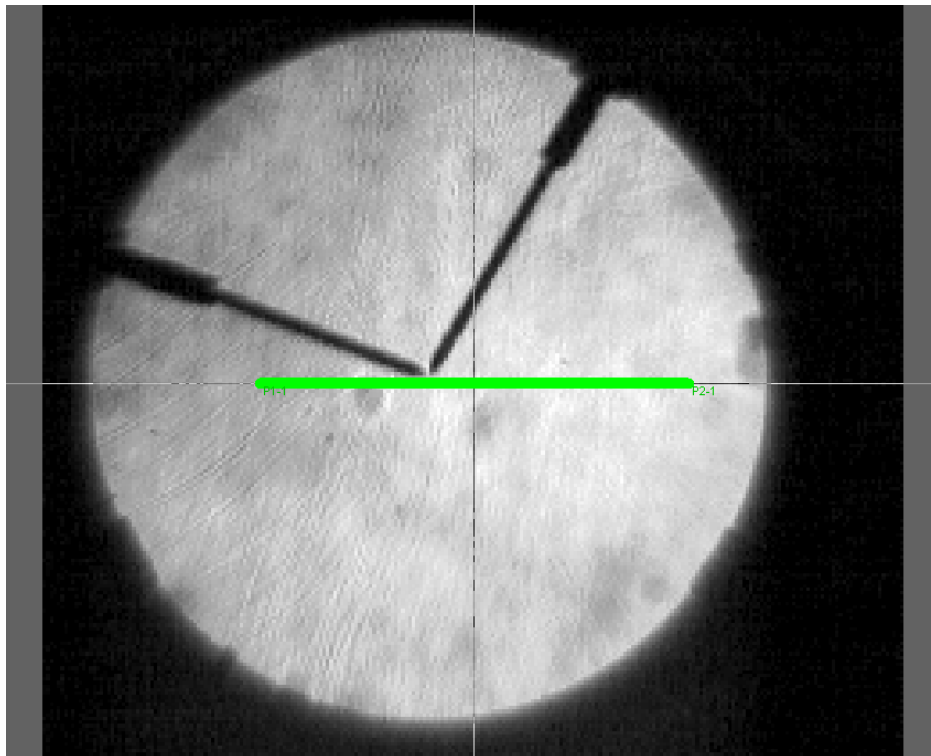

Figure 1
3. Click the **“Enable”** button. A track line will appear in the center of the video window (Figure 1).